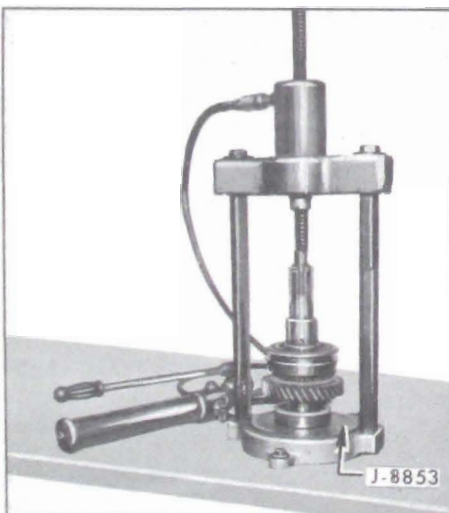

Figure 4-68—Installing Rear Bearing Using J-8853
4. Using J-8853, press on the rear bearing with the snap ring groove toward the front of the transmission (see Figure 4-68). Firmly seat bearing against the shoulder on the mainshaft.